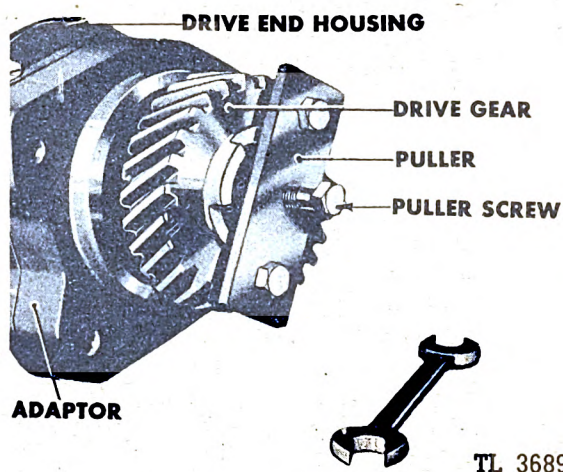
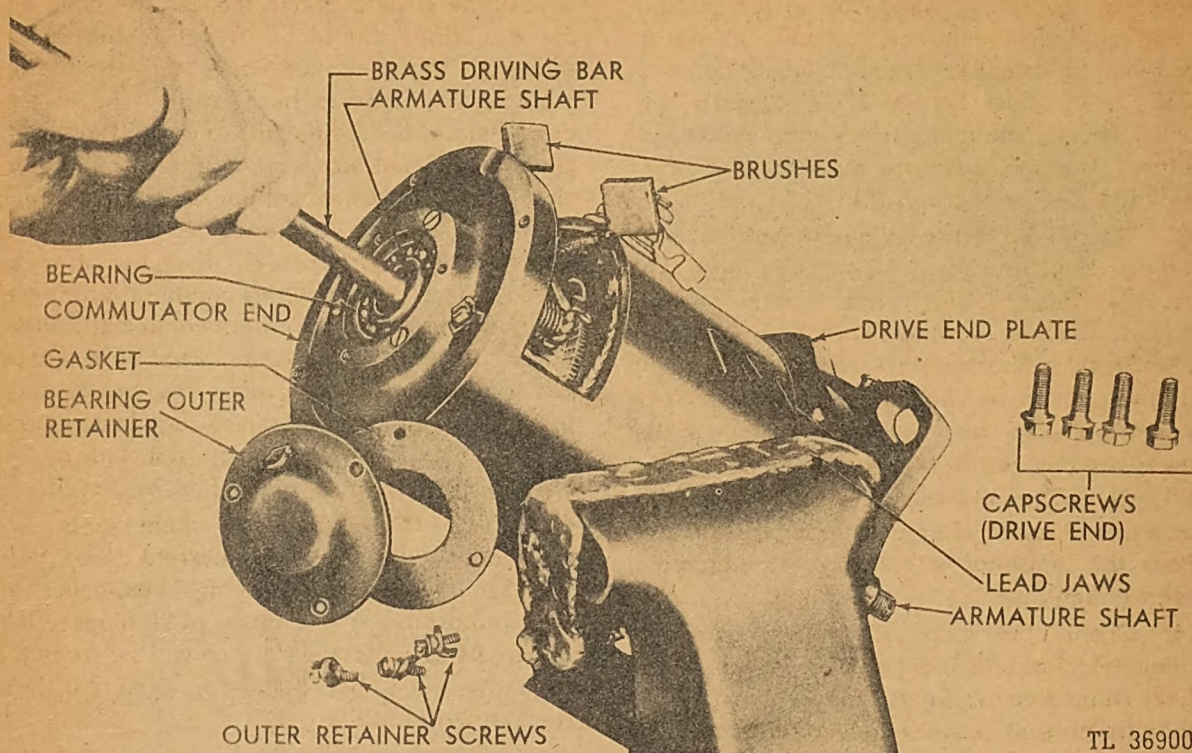

Fig. 247. Removing Generator Drive Gear
Fig. 248. Driving Out Armature Shaft
(1) Remove the cotter pin, locking nut and washer from the drive shaft. The gear puller may then be attached to the driving gear by the two hex head screws and the gear removed from the shaft. (See Figure 247.)
(2) Make adjacent center punch marks on housings and field ring so that these marks can be lined up in assembly to locate the parts in their original position.
- (3) Remove brush opening band.
- (4) Lift up levers to relieve spring pressure, taking care not to snap them, which will damage the brushes.
- (5) Now brushes may be removed from brush holders. Do not pull "pigtails" out of brushes.
- (6) Remove screws, spring and tabbed lockwashers, and bearing retainer. Do not remove flat head screws.
- (7) Remove drive end housing screws.
- (8) With a brace rod held against exposed commutator end of armature shaft, drive the shaft out of ball bearing. (See Figure 248.)